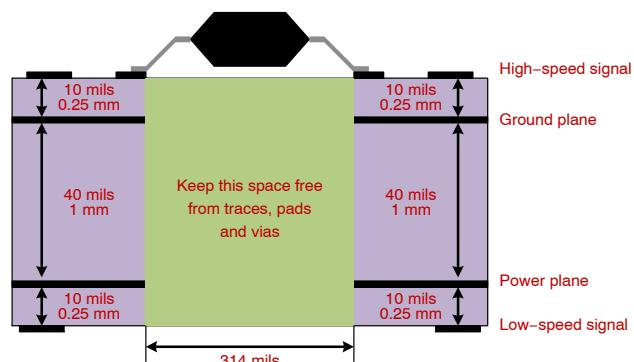

Figure 66. Recommended Layer Stack
- To ensure isolation performance between the primary and secondary side, any PCB traces or copper should be not place under the driver device as shown in Figure 66. A PCB cutout is recommended in order to prevent contamination that may impair the isolation performance of NCP51563.